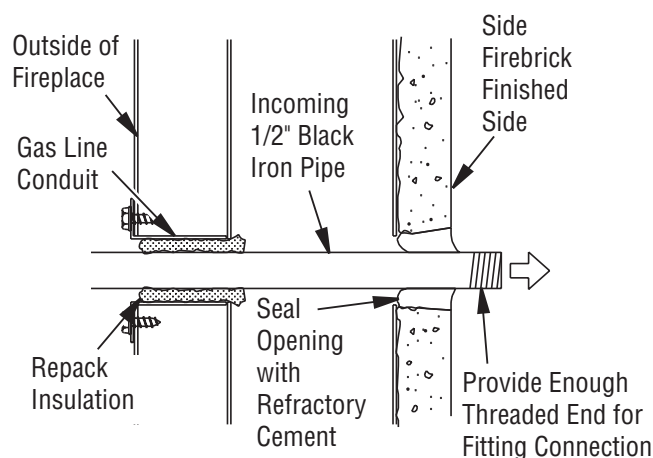

Figure 38 - Gas Line Installation
3. Run a 1/2" black iron gas line into fireplace through the rear at gas line conduit sleeve (if using a raised platform, add height). Provide sufficient gas line into fireplace chamber for fitting connection (see Figure 38).